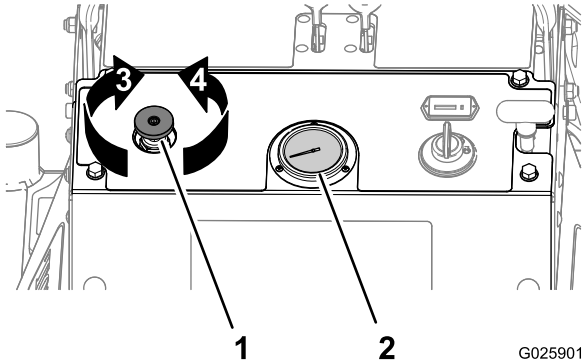

Figure 17
Note: First time use: set the tine pressure control so that the tine-pressure gauge (Figure 17) indicates 24 bar (350 psi).
- Rotate the tine-pressure control **counterclockwise** (Figure 17) to decrease the downward pressure in order to remove a **shorter** plug.
- Rotate the tine-pressure control **clockwise** (Figure 17) to increase downward pressure in order to remove a **longer** plug.